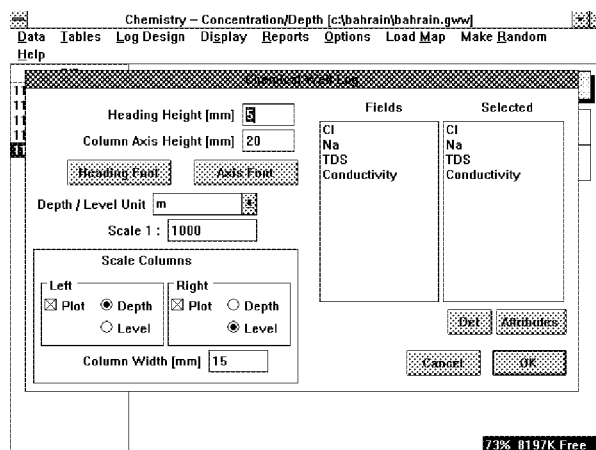

Figure 19-9
**19.4.1. New Log Design** When you select **New Log Design** GWW opens a dialogue box as shown in Figure 19-9. Some of components in this dialogue apply to the general layout of the display, such as Heading height and column axis height, fonts to be used on the graph, units for depth and level, and scale of the graph. The right side of the dialogue lists all available constituents (taken from Data Structure or from the internal file Chem\_Conc\_Depth\_Tab). You may select one or more constituents to display, and by clicking on the button Attributes control how each constituent will be presented.
The same dialogue box as the one shown in Figure 19-9 will be displayed and you may proceed with its editing in the same way in which you have created a new design.